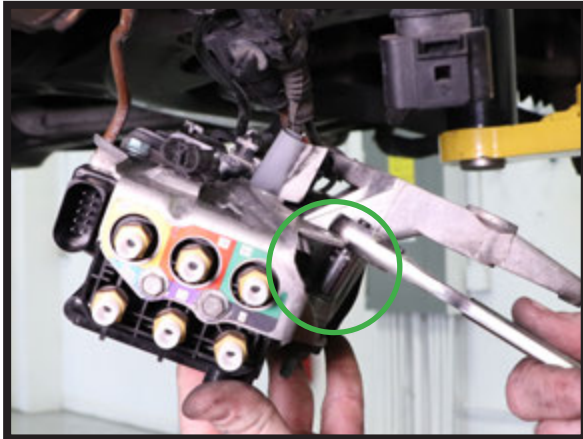

FIGURE 15
2. REINSTALL THE VALVE BLOCK MOUNT ON TO THE BLOCK/COMPRESSOR ASSEMBLY USING THE EXISTING HARDWARE. (FIGURES 15, 16)